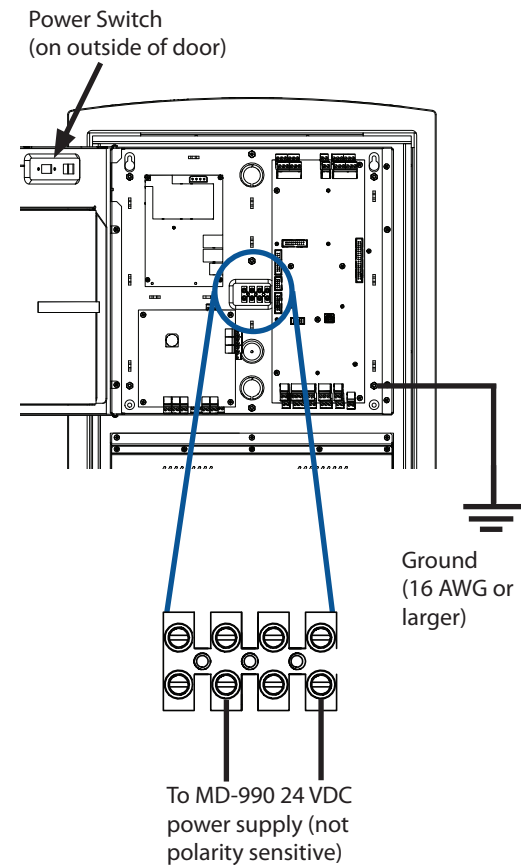

Figure 5: Chassis Ground and Power
1. Connect the MD-990 load power supply wires to the Touch Screen terminal screws as shown in Figure 5.